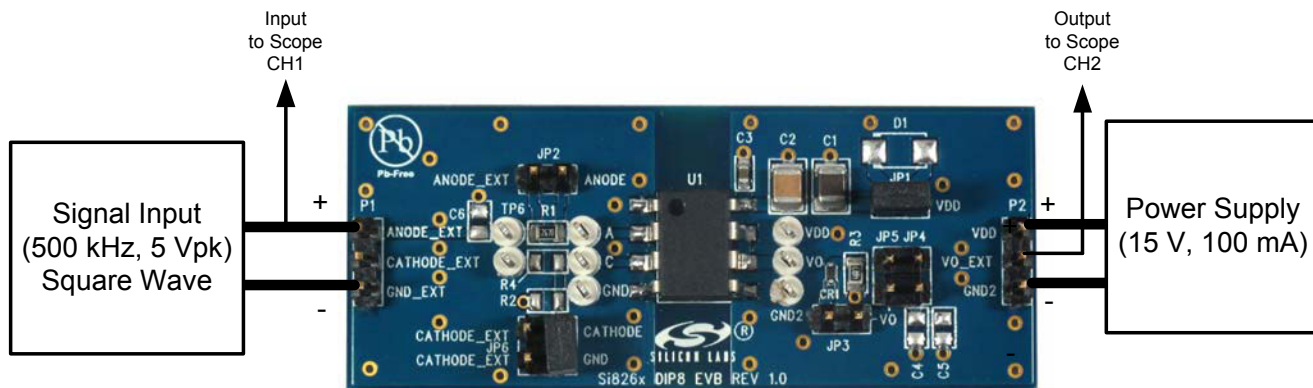
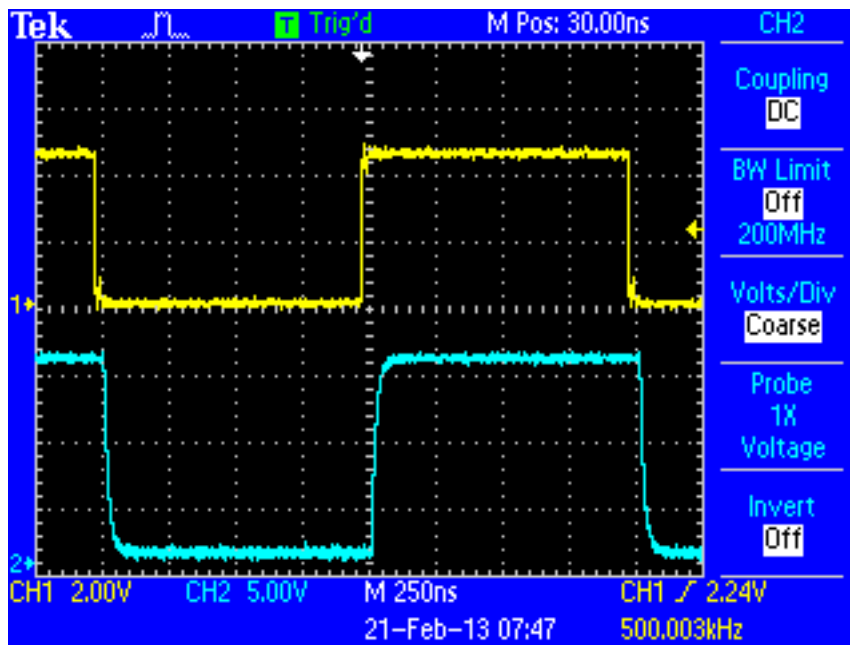
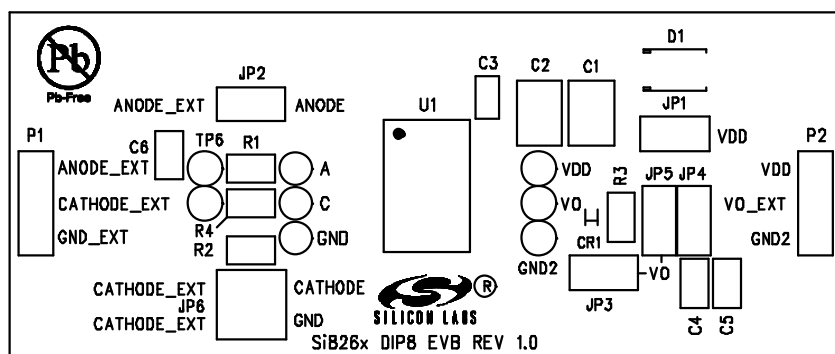
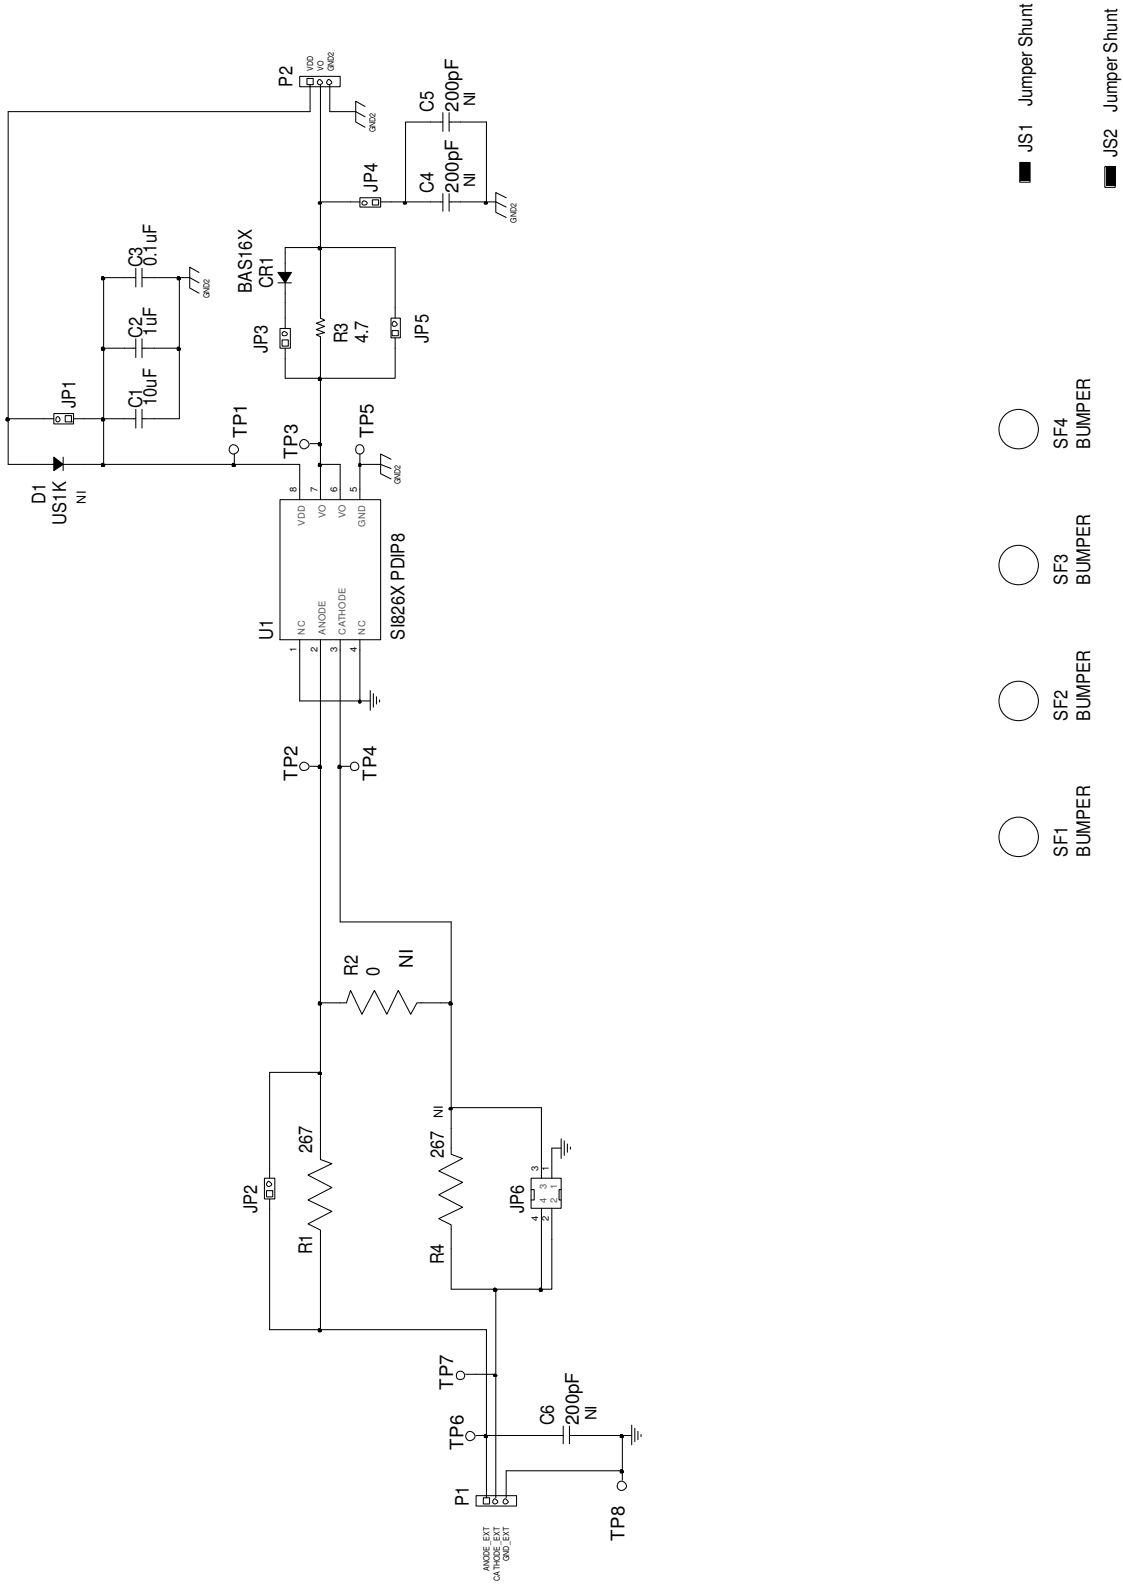

Figure 5. Summary Diagram and Test Setup
Figure 6. Oscilloscope Display of Input and Output
Figure 7. Si826x DIP8 Evaluation Board Silkscreen
Figure 11. Si826x DIP8 Evaluation Board Schematic
Figure 5 illustrates the connection diagram to demonstrate the Si826x-DIP8 EVB. The other footprint boards demonstrate in a similar fashion. This demo transmits a 500 kHz (5 V peak, 50 percent duty cycle) square wave through the ISOdriver to its output (Vo). In this example, VDD is powered by a 15 V supply. Figure 6 shows a scope shot of CH1 (input) and CH2 (output). Note that if a user wants to evaluate an LED Emulator Input ISOdriver other than the ones pre-populated, this can be accomplished by removing the installed device and replacing it with the desired footprint-compatible ISOdriver device.
To run the demo, follow the instructions below. Review Figure 5 and Figures 11 through 14 if necessary.
5. Adjust the level indicator for all channels to properly view each channel as shown in Figure 6.
A 500 kHz square wave should display on Channel 1 of the scope for the input and a slightly delayed 5 V version of this square wave should display the output on Channel 2, as shown in Figure 6. This concludes the basic demo. For more advanced demos, see the following section.
The Si826x evaluation board has several test points. These test points correspond to the respective pins on the Si826x integrated circuits as well as other useful inspection points. See Figures 7 through 10 for a silkscreen overview. See schematics in Figures 11 through 14 for more details as well.